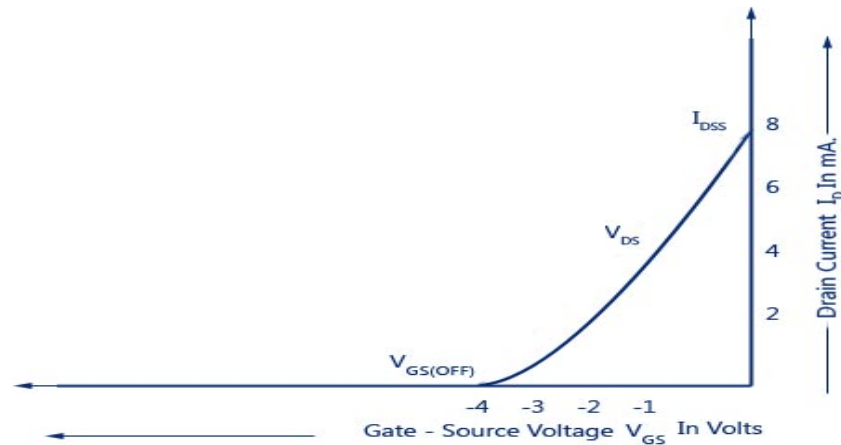

Fig. 4.7 Transfer characteristics
- The curve is plotted between gate-source voltage, V_{GS} and drain current, I_D , as illustrated in fig. 4.7.